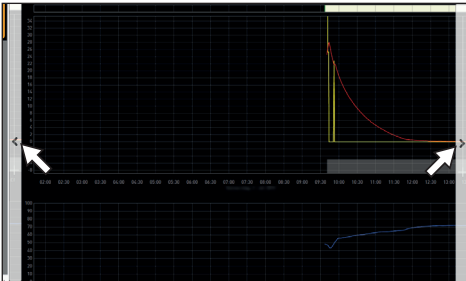

Fig. 10
- ▶ To move the displayed time range (x axis), move the mouse cursor to the right or left edge of the graph window. Arrows will appear with which you can move the displayed section to the left or to the right (Fig. 10).